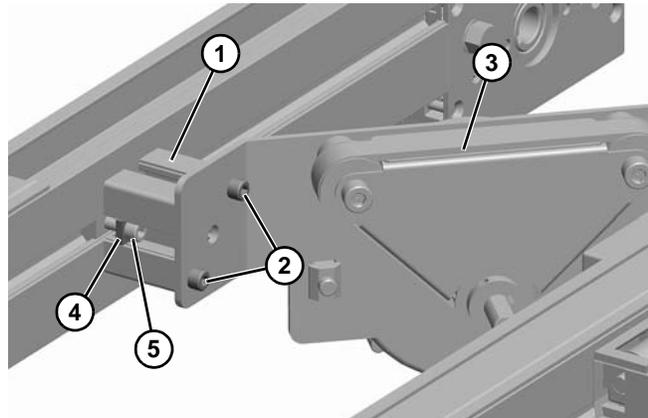

Figure 80
2. Assemble rail extension (Figure 80, item 1) to drive assembly with socket head screws (Figure 80, item 2). Repeat on opposite side. Tighten screws.
3. Install drive assembly (Figure 80, item 3) to conveyor with key bar (Figure 80, item 4) and socket head screws (Figure 80, item 5). Repeat on opposite conveyor. Do not tighten screws.